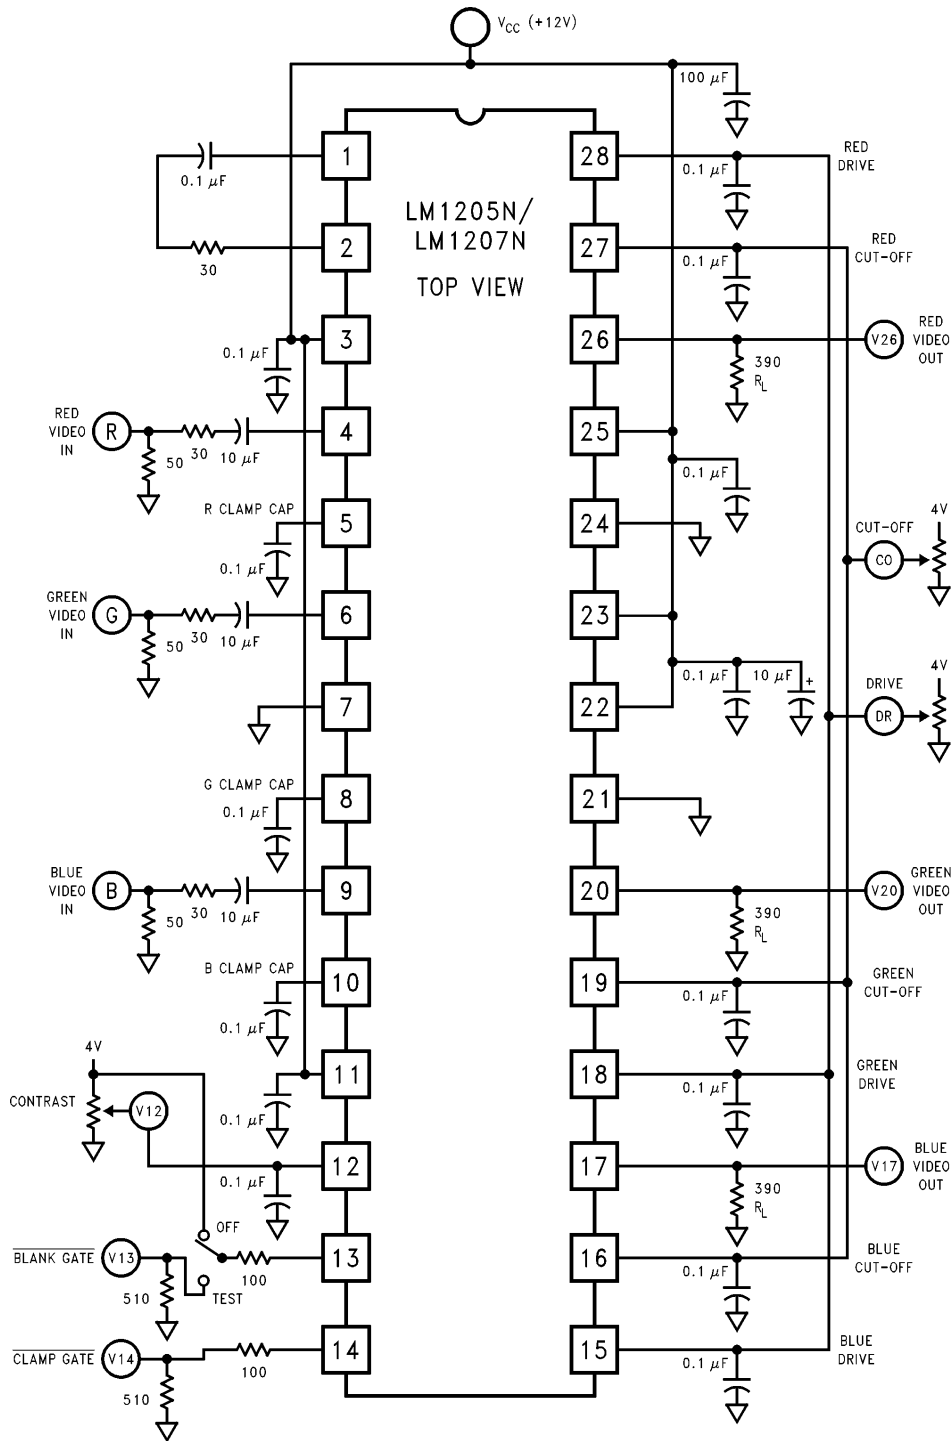

FIGURE 2. LM1205N/LM1207N DC Test Circuit
**DC Electrical Characteristics** See DC Test Circuit (Figure 2),  $T_A = 25^\circ\text{C}$ ;  $V_{CC1} = V_{CC2} = 12V$ .  $V_{12} = 4V$ ;  $V_{14} = 0V$ ;  $V_{cut-off} = 1.0V$ ;  $V_{13} = 4V$ ;  $V_{drive} = 4V$  unless otherwise stated.
**Note 7:** The supply current specified is the quiescent current for  $V_{CC1}$  and  $V_{CC2}$  with  $R_L = \infty$ , see Figure 2's test circuit. The supply current for  $V_{CC2}$  (pin 23) also depends on the output load. With video output at 1V DC, the additional current through  $V_{CC2}$  is 8 mA for Figure 2's test circuit.